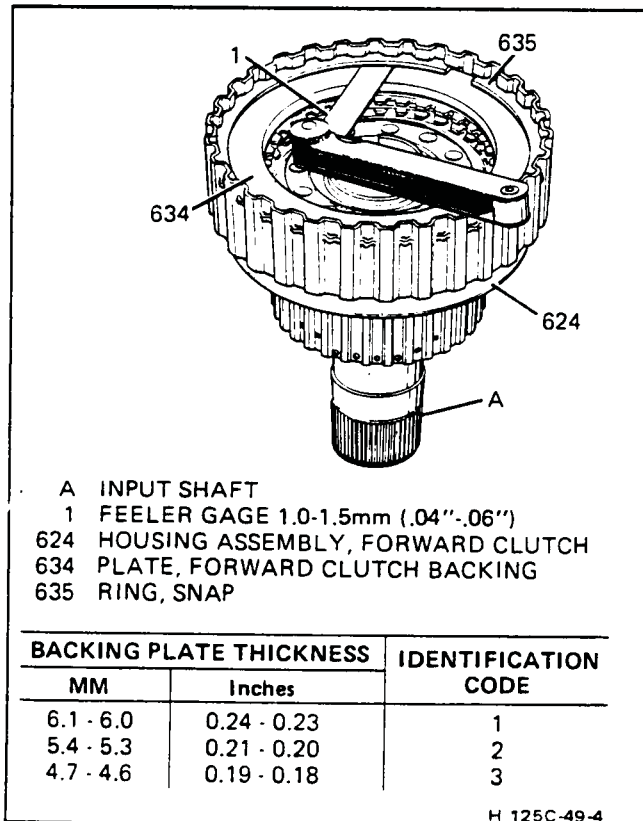

Figure 69 Forward Clutch Backing Plate Selection
4. Spring guide (630)
5. Spring and retainer assembly (631)
6. Snap ring (632) – Use arbor press or J-23456 and J-25018-A.
7. Wave plate (633).
8. Lubricate composition plates (633).
9. Alternately composition and steel plates (633)
10. Backing plate (633) I.D. side up
11. Snap ring (632)
12. New seal rings (622) if required
- Snap ring (635) to backing plate (634) – end play range with a feeler gage must be 1.0-1.5 mm (.040"-.060"). For correct backing plate selection see Figure 69.